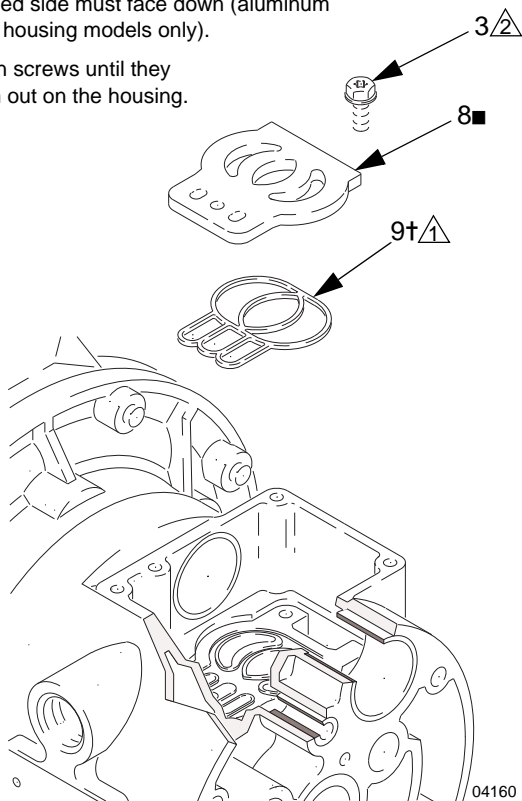

Fig. 10
5. Inspect the valve plate (8) in place. If damaged, use a Torx (T20) screwdriver or 7 mm (9/32") socket wrench to remove the three screws (3). Remove the valve plate (8) and on aluminum center housing models only, remove the seal (9). See Fig. 10.
2. On aluminum center housing models, install the valve plate seal (9) into the groove at the bottom of the valve cavity. The rounded side of the seal **must face down** into the groove. See Fig. 10.
3. Install the valve plate (8) in the cavity. On aluminum center housing models, the plate is reversible, so either side can face up. Install the three screws (3), using a Torx (T20) screwdriver or 7 mm (9/32") socket wrench. Tighten until the screws bottom out on the housing. See Fig. 10.